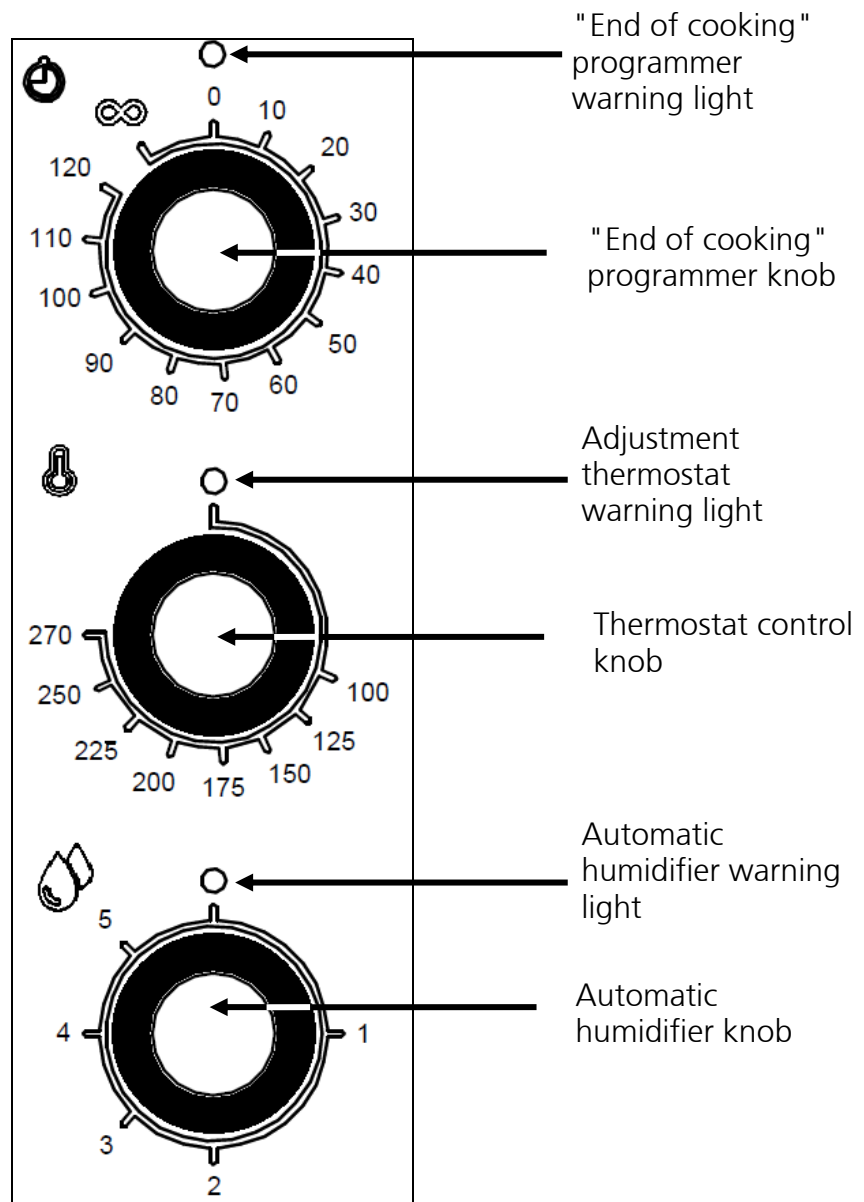

Fig.1
**Programming cooking time** - The oven is switched on by turning the programmer knob (Fig.1) to the  symbol (continuous operation) or to the selected cooking time (up to 120 minutes); in the latter case the end of cooking is signalled by the oven switching off automatically.
**Programming cooking temperature** - Turn the thermostat knob (Fig.1) to adjust the temperature selected for cooking.
**Programming humidity/steam quantity** - To generate humidity/steam during the operation of the oven (hot cooking chamber), turn the knob of the automatic humidifier (Fig.1) to the desired value (from 1 to 5). By turning the knob to the • (off) position the humidifier stops working.
**"End of cooking" programmer warning light** - The green light of the programmer (Fig.1) indicates that the oven is working and that the cooking time is active.
**Control thermostat warning light** - The orange warning light of the control thermostat (Fig.1) turns off every time the programmed temperature is reached in the cooking chamber. It switches on again when the thermostat is triggered to re-establish this temperature.
**Automatic humidifier warning light** - The orange warning light of the automatic humidifier (Fig.1) indicates that the water solenoid valve is operating and therefore humidity/steam is being produced in the cooking chamber.